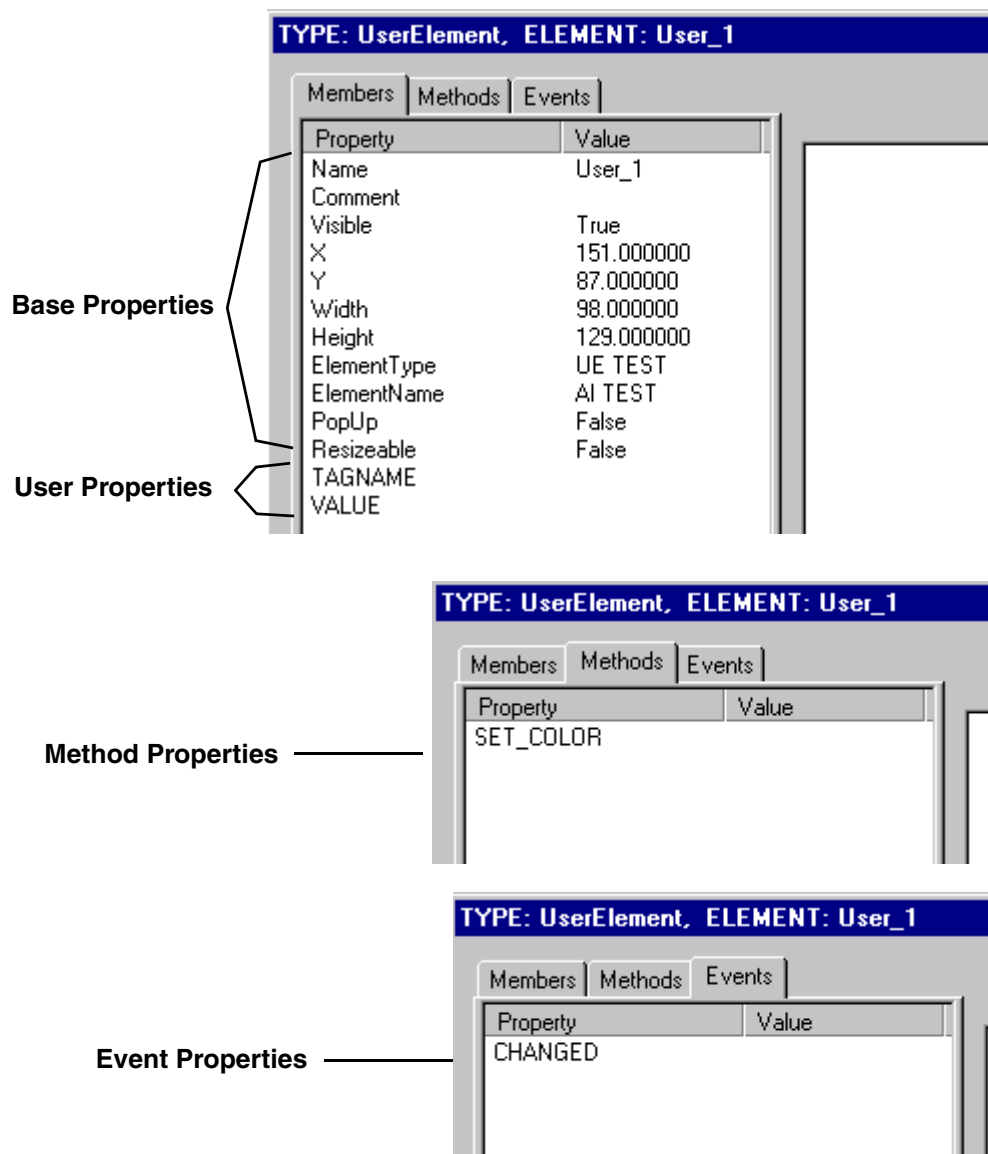

Figure 155. Property Dialog for User Element Instance
4. Display the Properties dialog for this user element, Figure 155.